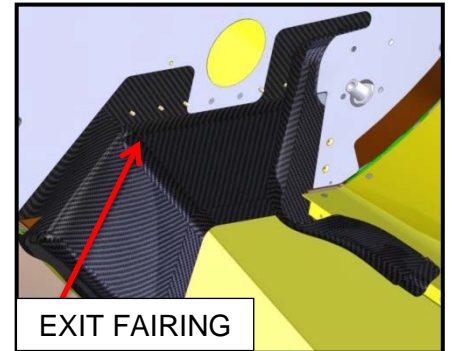

FIGURE 17 – Exit Fairing Location
51. If your aircraft has exit fairings (Ref. Figure 17) installed, it may be necessary to remove them (retaining all fasteners) before continuing. Verify that locating the new drain 3-3/4" aft of the firewall will safely clear the exit fairings. If not, shift the pattern aft as needed.